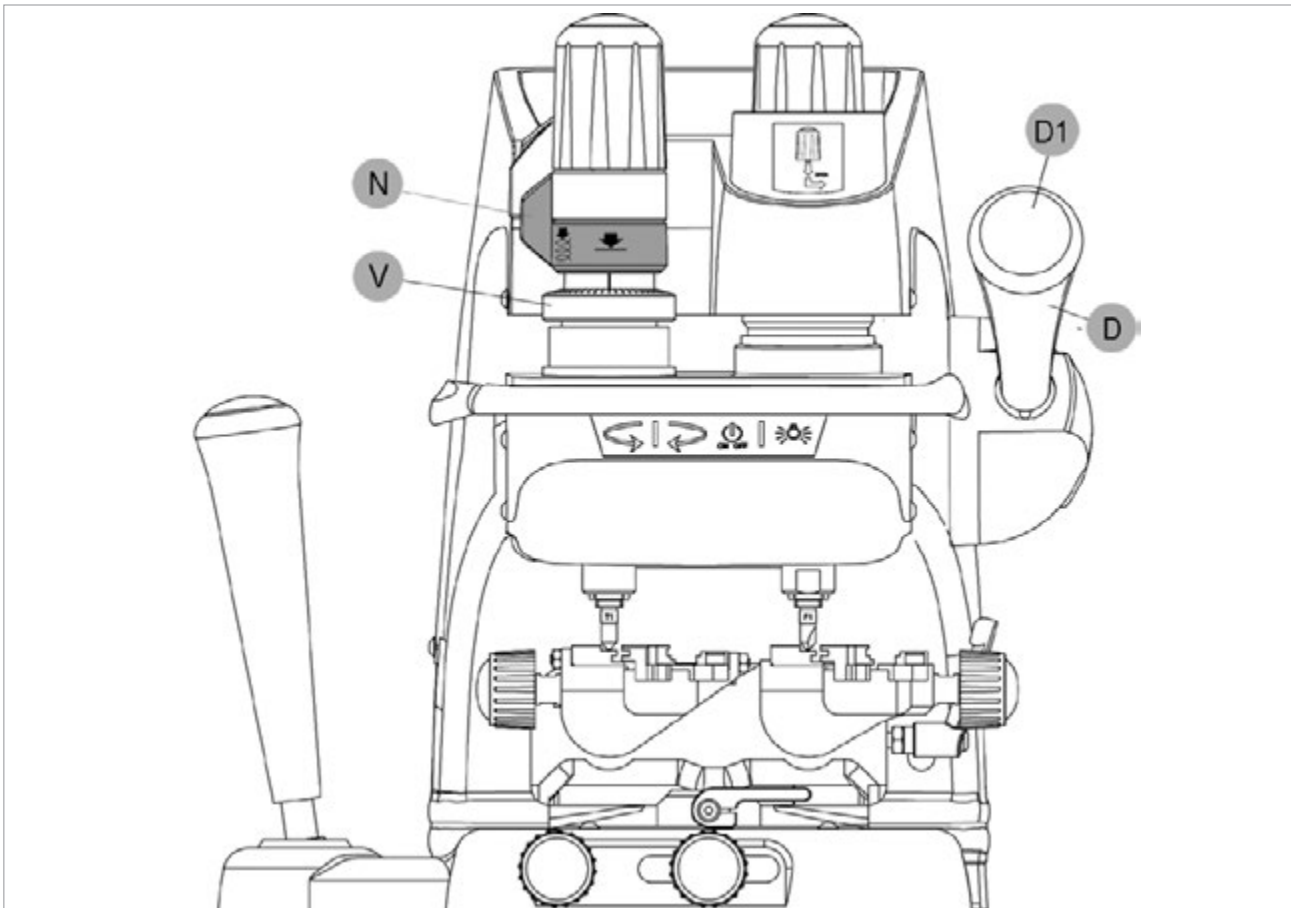

Fig. 21
- 5) Press the lever (D) release button (D1), lower the vertical carriage and take the tools into contact with the clamp surface (seat of the key)(Fig. 21) There are three possibilities: